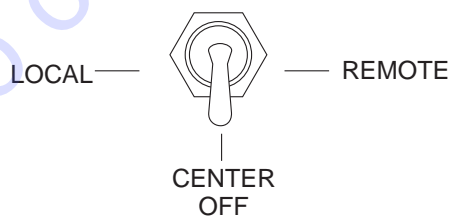

Figure 23. Pumping Control Switch (OFF)
3. Place the **pumping control switch** in the **CENTER OFF** position (Figure 23) for normal pumping operation.